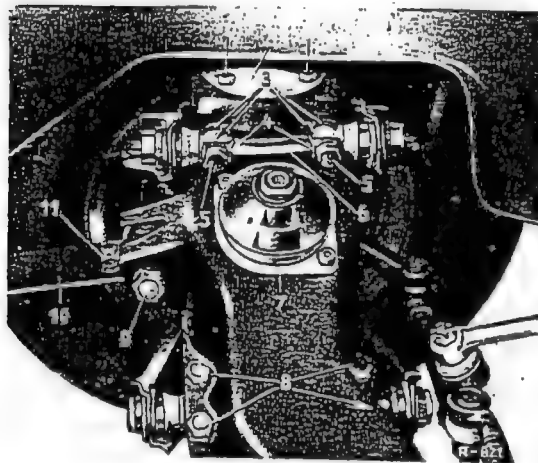

Fig. 33-2/1
2. Loosen the two hexagon screws (5) fastening the pivot pin (6) for the upper control arm to the front axle support, after tapping up the locking plates (4), and remove together with the shims (3) (Fig. 33-2/1).